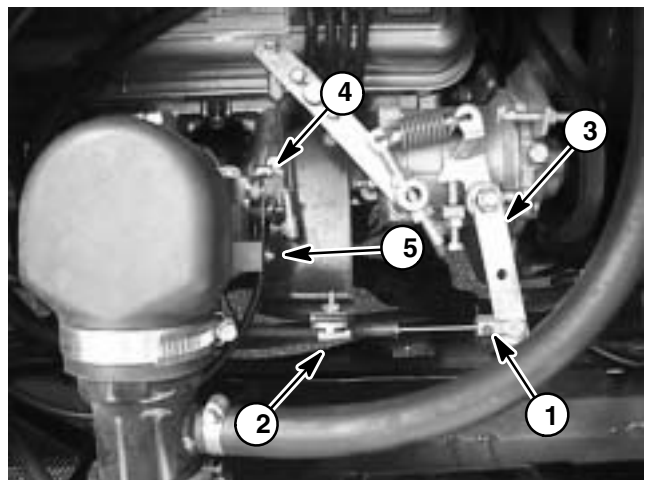

Figure 20
10. Remove throttle and choke cables from engine (Fig. 20).
9. Install choke cable to choke lever swivel (Fig. 20). Secure choke cable to carburetor with washer and screw. Check choke cable adjustment (see Adjust Choke Cable in the Adjustments Section of this Chapter).
10. Reconnect throttle cable to engine (Fig. 20).